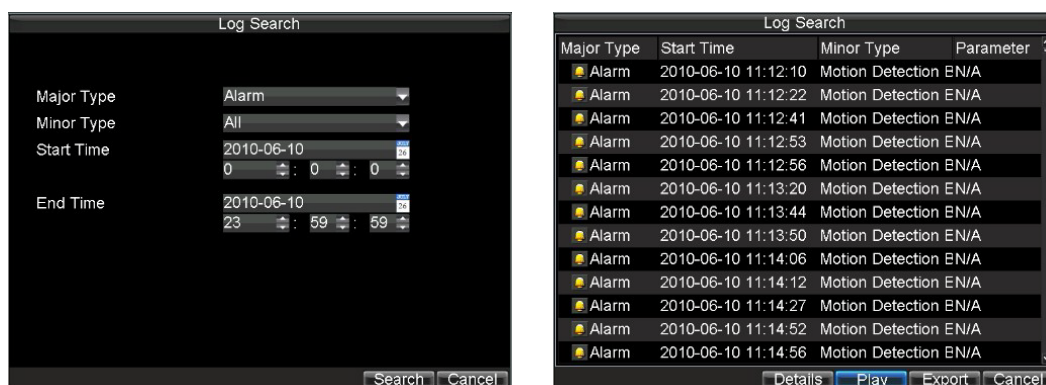

Figure 10. Log Search Menu
- 10). Enter the Log Search menu by clicking Menu > Maintenance > Log Search (shown in Figure 10).